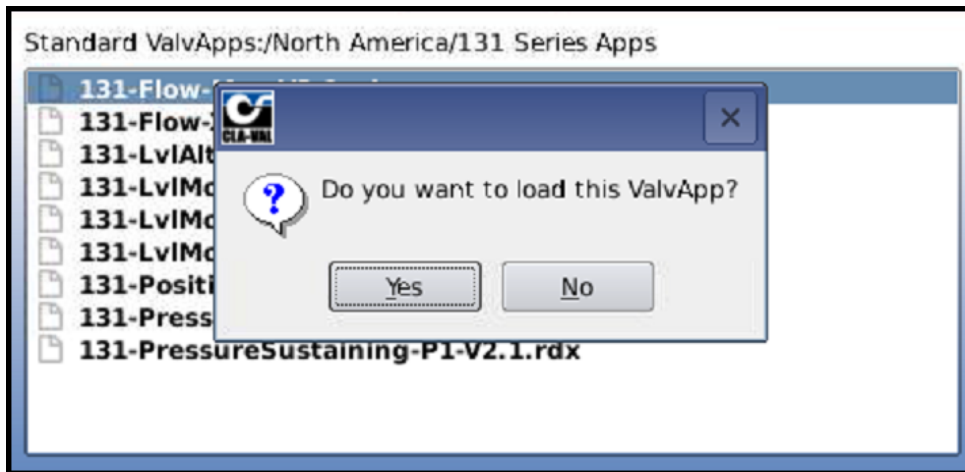

Figure 5.5
- b. When prompted for confirmation, highlight “Yes” using navigation arrows and press “OK” as shown in **FIGURE 5.5**.